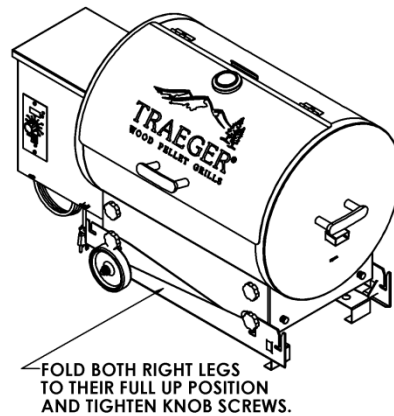

Figure 3-6
4. Lift the right side of the grill removing weight off the legs. Then loosen the lower knob screw on both right back and front legs. Then pivot the front right leg until it comes in contact with the folded down legs. Then tighten the knob screw to secure. Then fold up the back right leg until it comes in contact with the folded down legs. (See figure 3-6) Then tighten the thumb screw to secure. Then tighten the entire remaining knob and knurled screws so they will not come out.